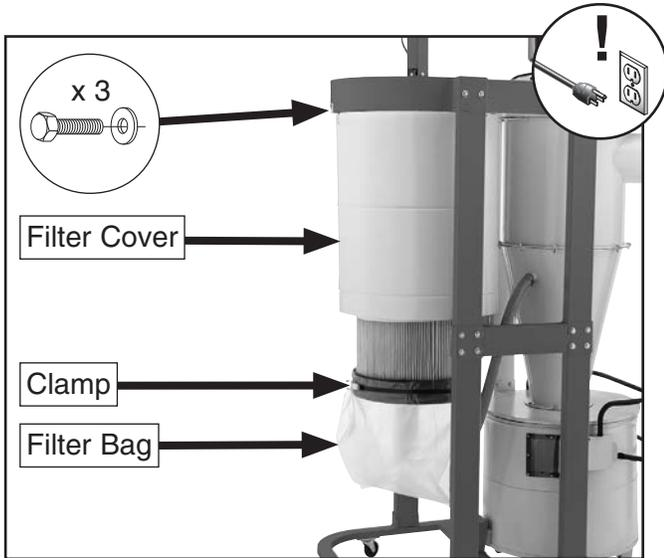

Figure 79. Location of filter bag and filter cover.
3. Release clamp, then remove filter bag (see **Figure 79**).
4. With help from an assistant, remove (3) $\frac{5}{16}$ "-18 x $\frac{3}{4}$ " hex bolts and (3) $\frac{5}{16}$ " fender washers securing filter cover to impeller housing, then lower and remove cover (see **Figure 79**).